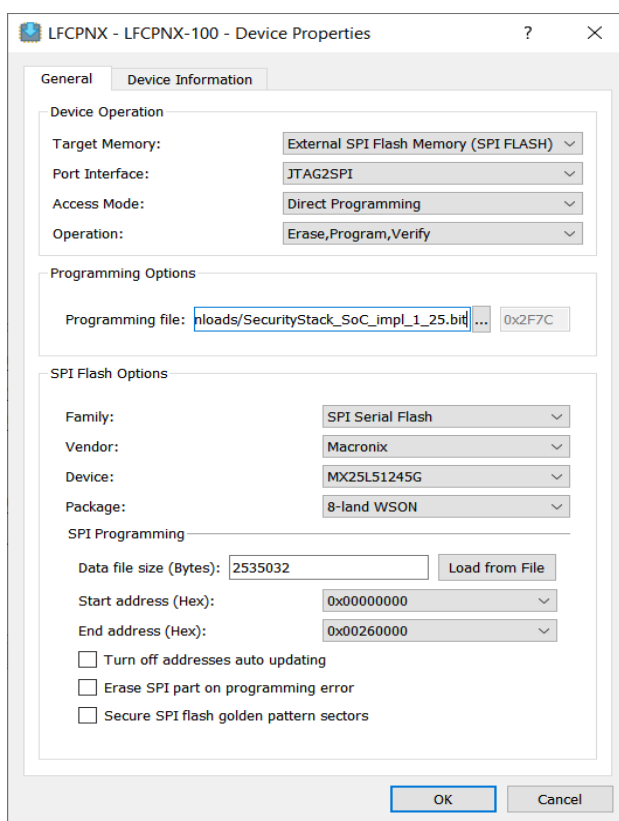

Figure A.6. Lattice Radiant Programmer-Bitstream Flashing
10. To program the bitstream file, select the options as shown in Figure A.6.